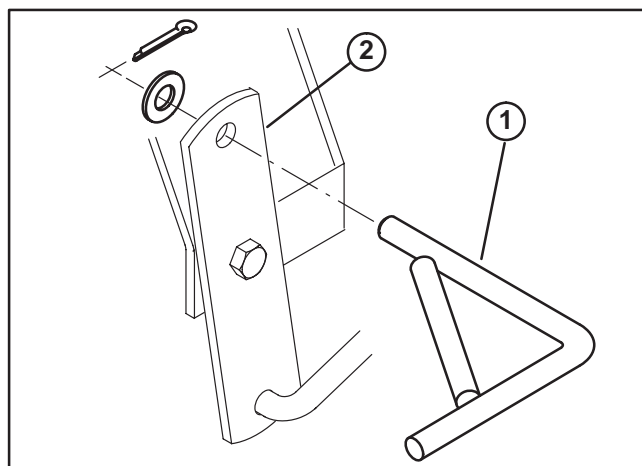

Figure 4
11. Secure rear dump link to top hole in pivot lever with a washer and cotter pin (Fig. 4).